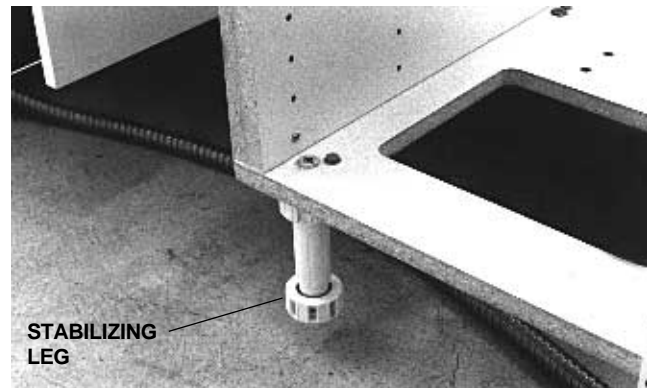
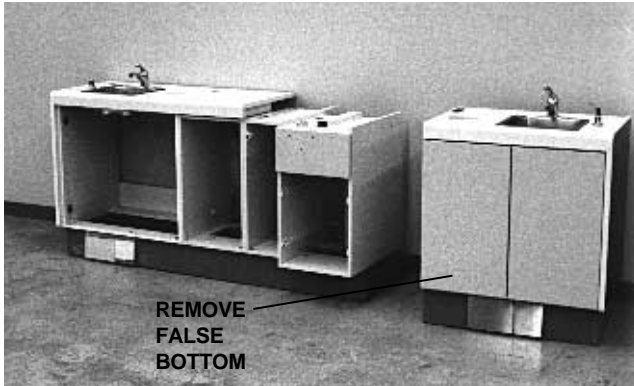

FIGURE 4
FIGURE 5
4. Locate the stabilizing leg, in the back of the module (see Figure 4). Be sure the stabilizing leg is in the full up position.
- Remove the false bottom from the small lower module (see Figure 5). Locate the plastic stabilizing leg in the back of the module (see Figure 4 on page 2). Be sure the stabilizing leg is in the full up position. Move the small module into position. Align the back of this module with the back of the module positioned in step 1.
2. Turn the stabilizing legs (see *Figure 4 on page 2*) clockwise to extend them until they contact the floor.